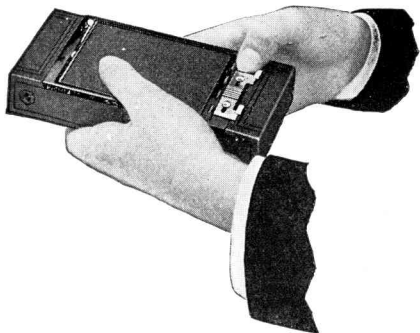
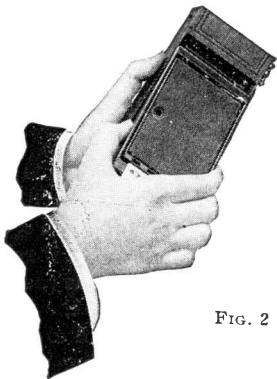
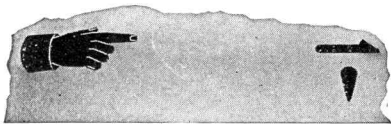

FIG. 1
FIG. 2
FIG. 7
1. To load camera, take a position at a table where the daylight is somewhat subdued and remove front of camera by pushing metal lock to the left, Fig. 1. Grasp the front of camera by the two metal edges and lift it upwards, first lifting that end on which the lock is fastened, and remove entirely that part of the camera. Fig. 2. The camera is now ready for loading.
6. The camera is now to be closed, reversing the operation shown in Figs. 1 and 2. When replacing front of camera after it is loaded, first insert the end opposite the lock, the edge of box should be in the metal groove at end of front,
7. The roll of film in the camera is covered with red paper and this must be reeled off before a picture can be taken. Turn the key slowly to the left and watch in the little red window at the back of the camera. When ten to twelve turns have been given, a black index hand will appear before the little red window. This hand is a warning that you are approaching Fig. 1. Then turn the key very slowly until Fig. 1 appears before the red window. Fig. 7.